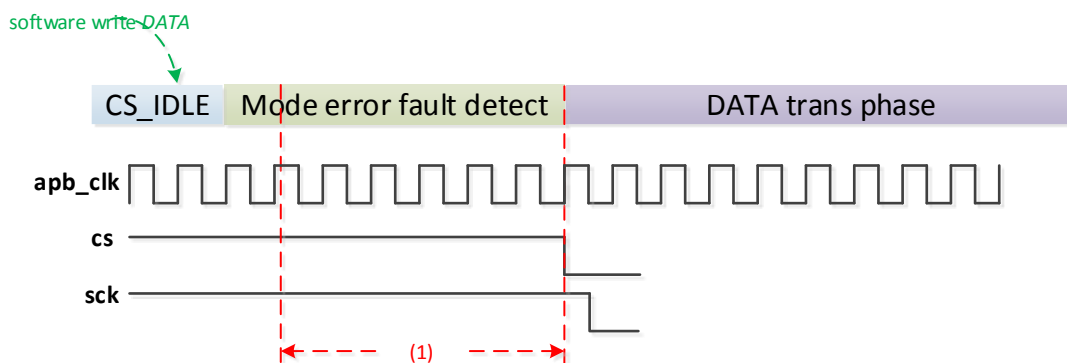

Figure 16-9 Limitation of mode fault detect
In some special cases, this mode fault detect function may can't detect the mode fault by master 1. If master 2 drive CS low during (1) period in Figure 16-9, master 1 will not set MODEF. Only master 2 drives CS low before (1) period, master 1 can set MODEF normally.